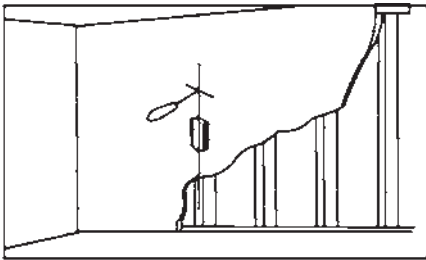

Fig. 3a
Wood stud walls (Fig 3a)
1. Use a pencil, awl, or a nail to mark the location of the wall stud centers (Fig. 3a) after locating the stud with an electronic stud locator. The distance between the marks should not be less than 16 inches (Studs must not be less than 16" inches.)